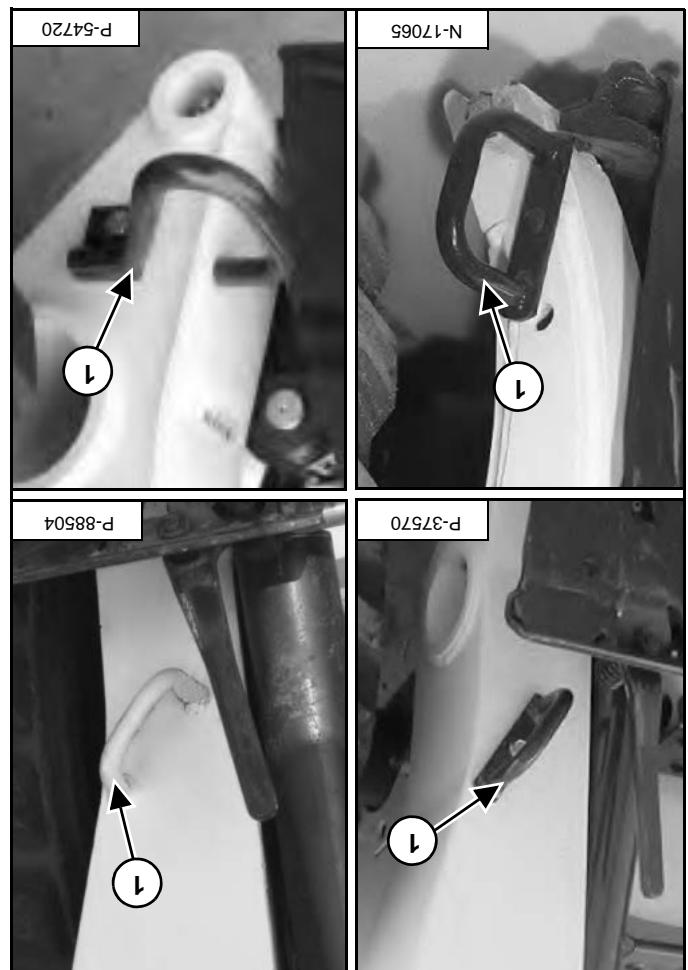

Figure 15
Install the correct hose guide (item 1) [Figure 15] on the loader.